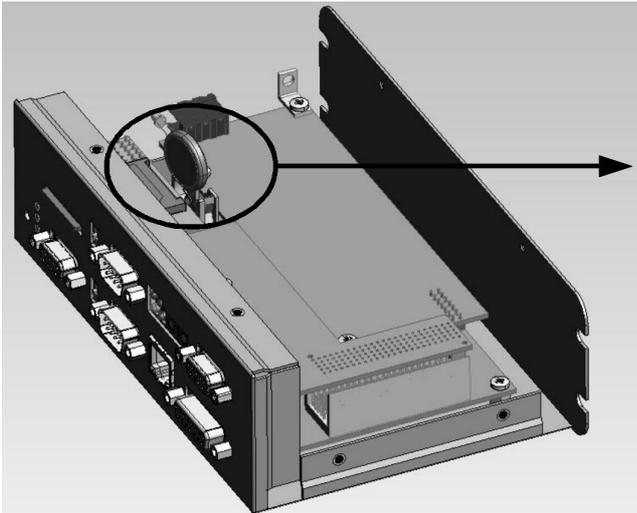

*Figure 10: Dismantle FCT200 tightening screws on lid*
- Unscrew the eight tightening screws on the lid and the operational earth screw (Figure 10)